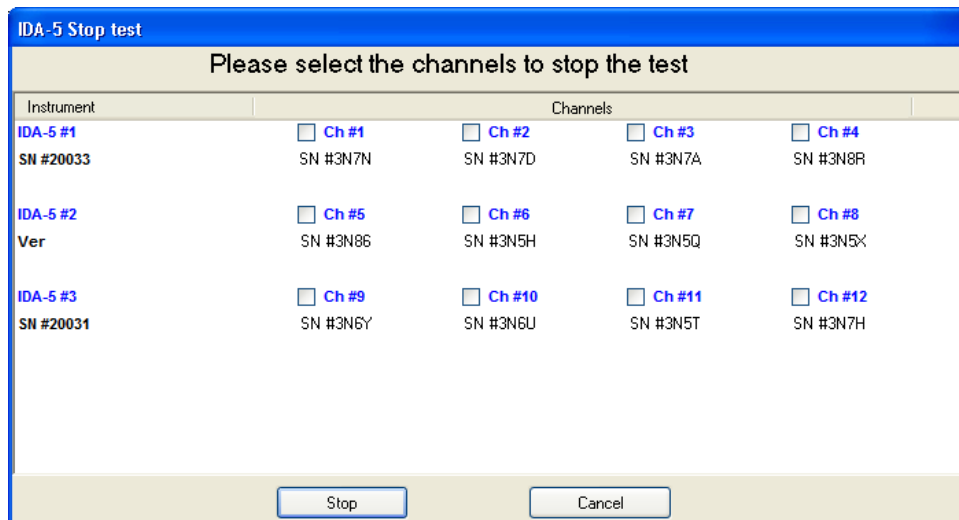

Figure 3-31. Stopping the Test
6. Click the stop icon (⏏) to stop the test. A selection box shows so the user can set which channels to stop as shown in Figure 3-31.